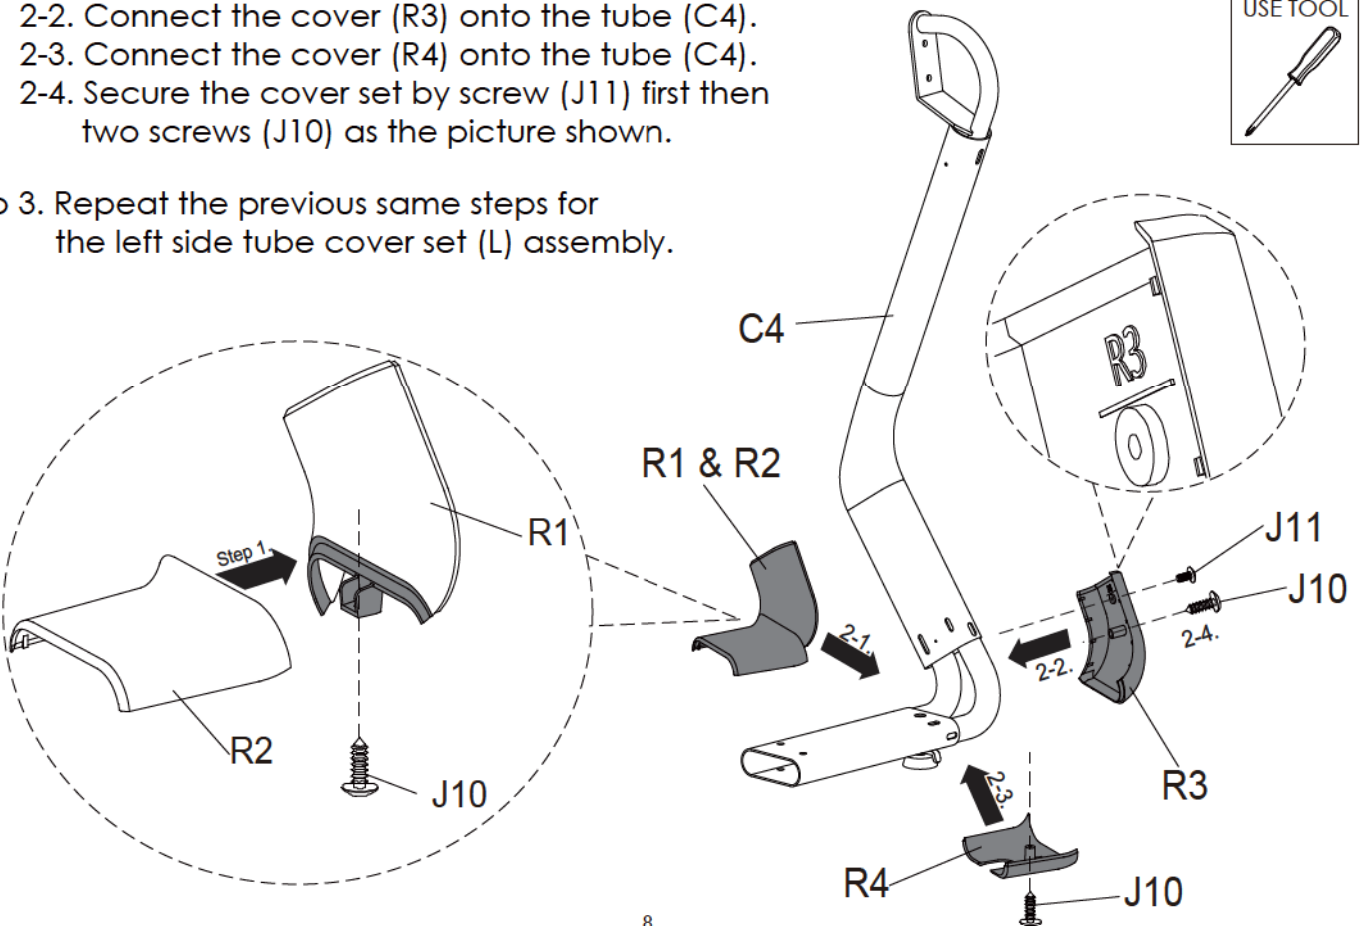

FIGURE 9_ RIGHT SIDE CONNECTING TUBE ASSEMBLY
Step 1. Left side tube(C3) As shown in the right side tube (C4) in "Figure 9".
Step 2. As shown in View (E) Use four screws (J13), four washers (J14) and the iron bracket (F2) to join the tube to the frame on the bottom.